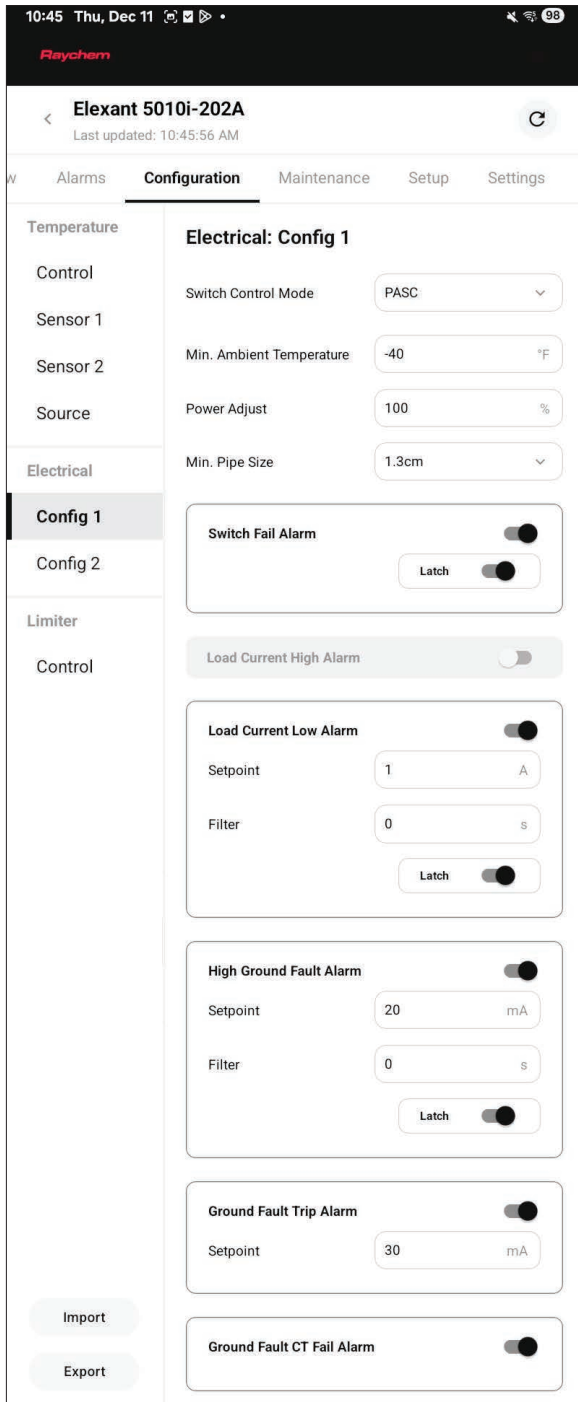
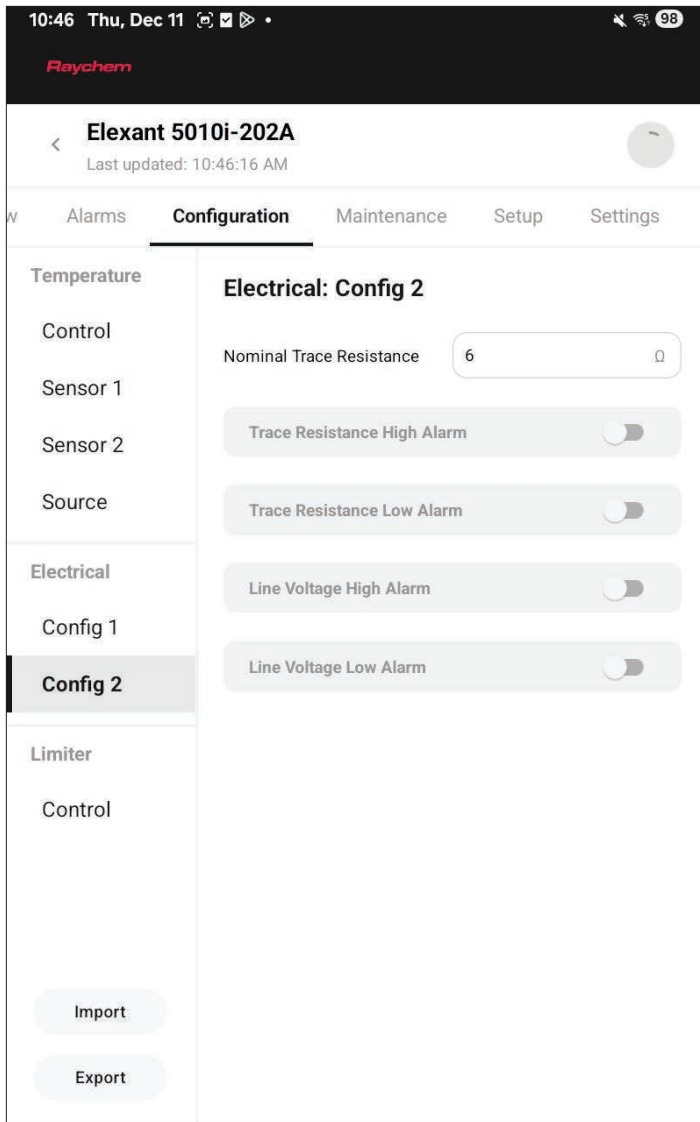

Figure 26: Electrical Config 1 Screen
Figure 27: Electrical Config 2 Screen
- Navigate to the Settings tab of the device and click on Security (**Fig 26**). The Unlock device screen will display. Enter the password and click on the Unlock button (**Fig 27**).